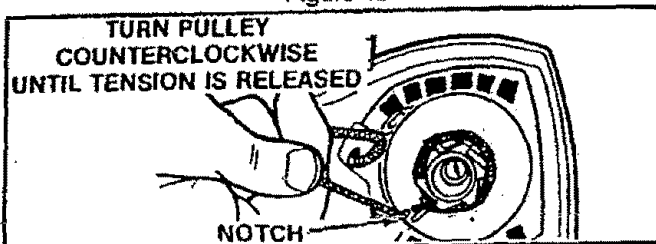

Figure 41
6. If the starter rope is not broken, release the spring tension by pulling about 10 inches of rope from the pulley and catch the rope in the notch as shown. Figure 41.
15. Wrap rope counterclockwise  around pulley ratchet and tuck loose end back under rope leaving a 3/8 to 3/4 inch tail laying in the rope groove. Figures 41 & 42.